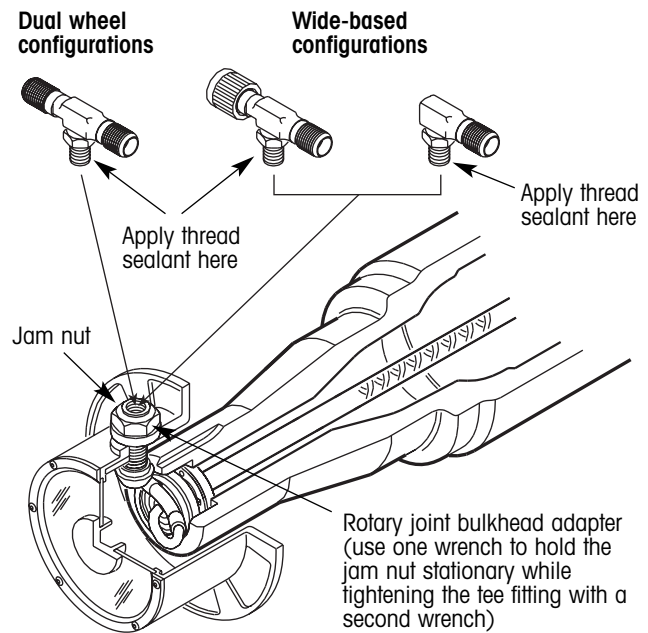

Figure 4. Tee installation
3. For all tire configurations, screw the tee fitting onto the rotary joint bulkhead adapter (figure 4) and tighten the swivel threads to  $130 \pm 10$  in. lbs. ( $14.7 \pm 1$  N•m) of torque. Use two wrenches to achieve the final torque value. Use one wrench to hold the jam nut on the rotary joint bulkhead adapter stationary and use the second wrench to tighten the tee fitting swivel threads to the final torque value.